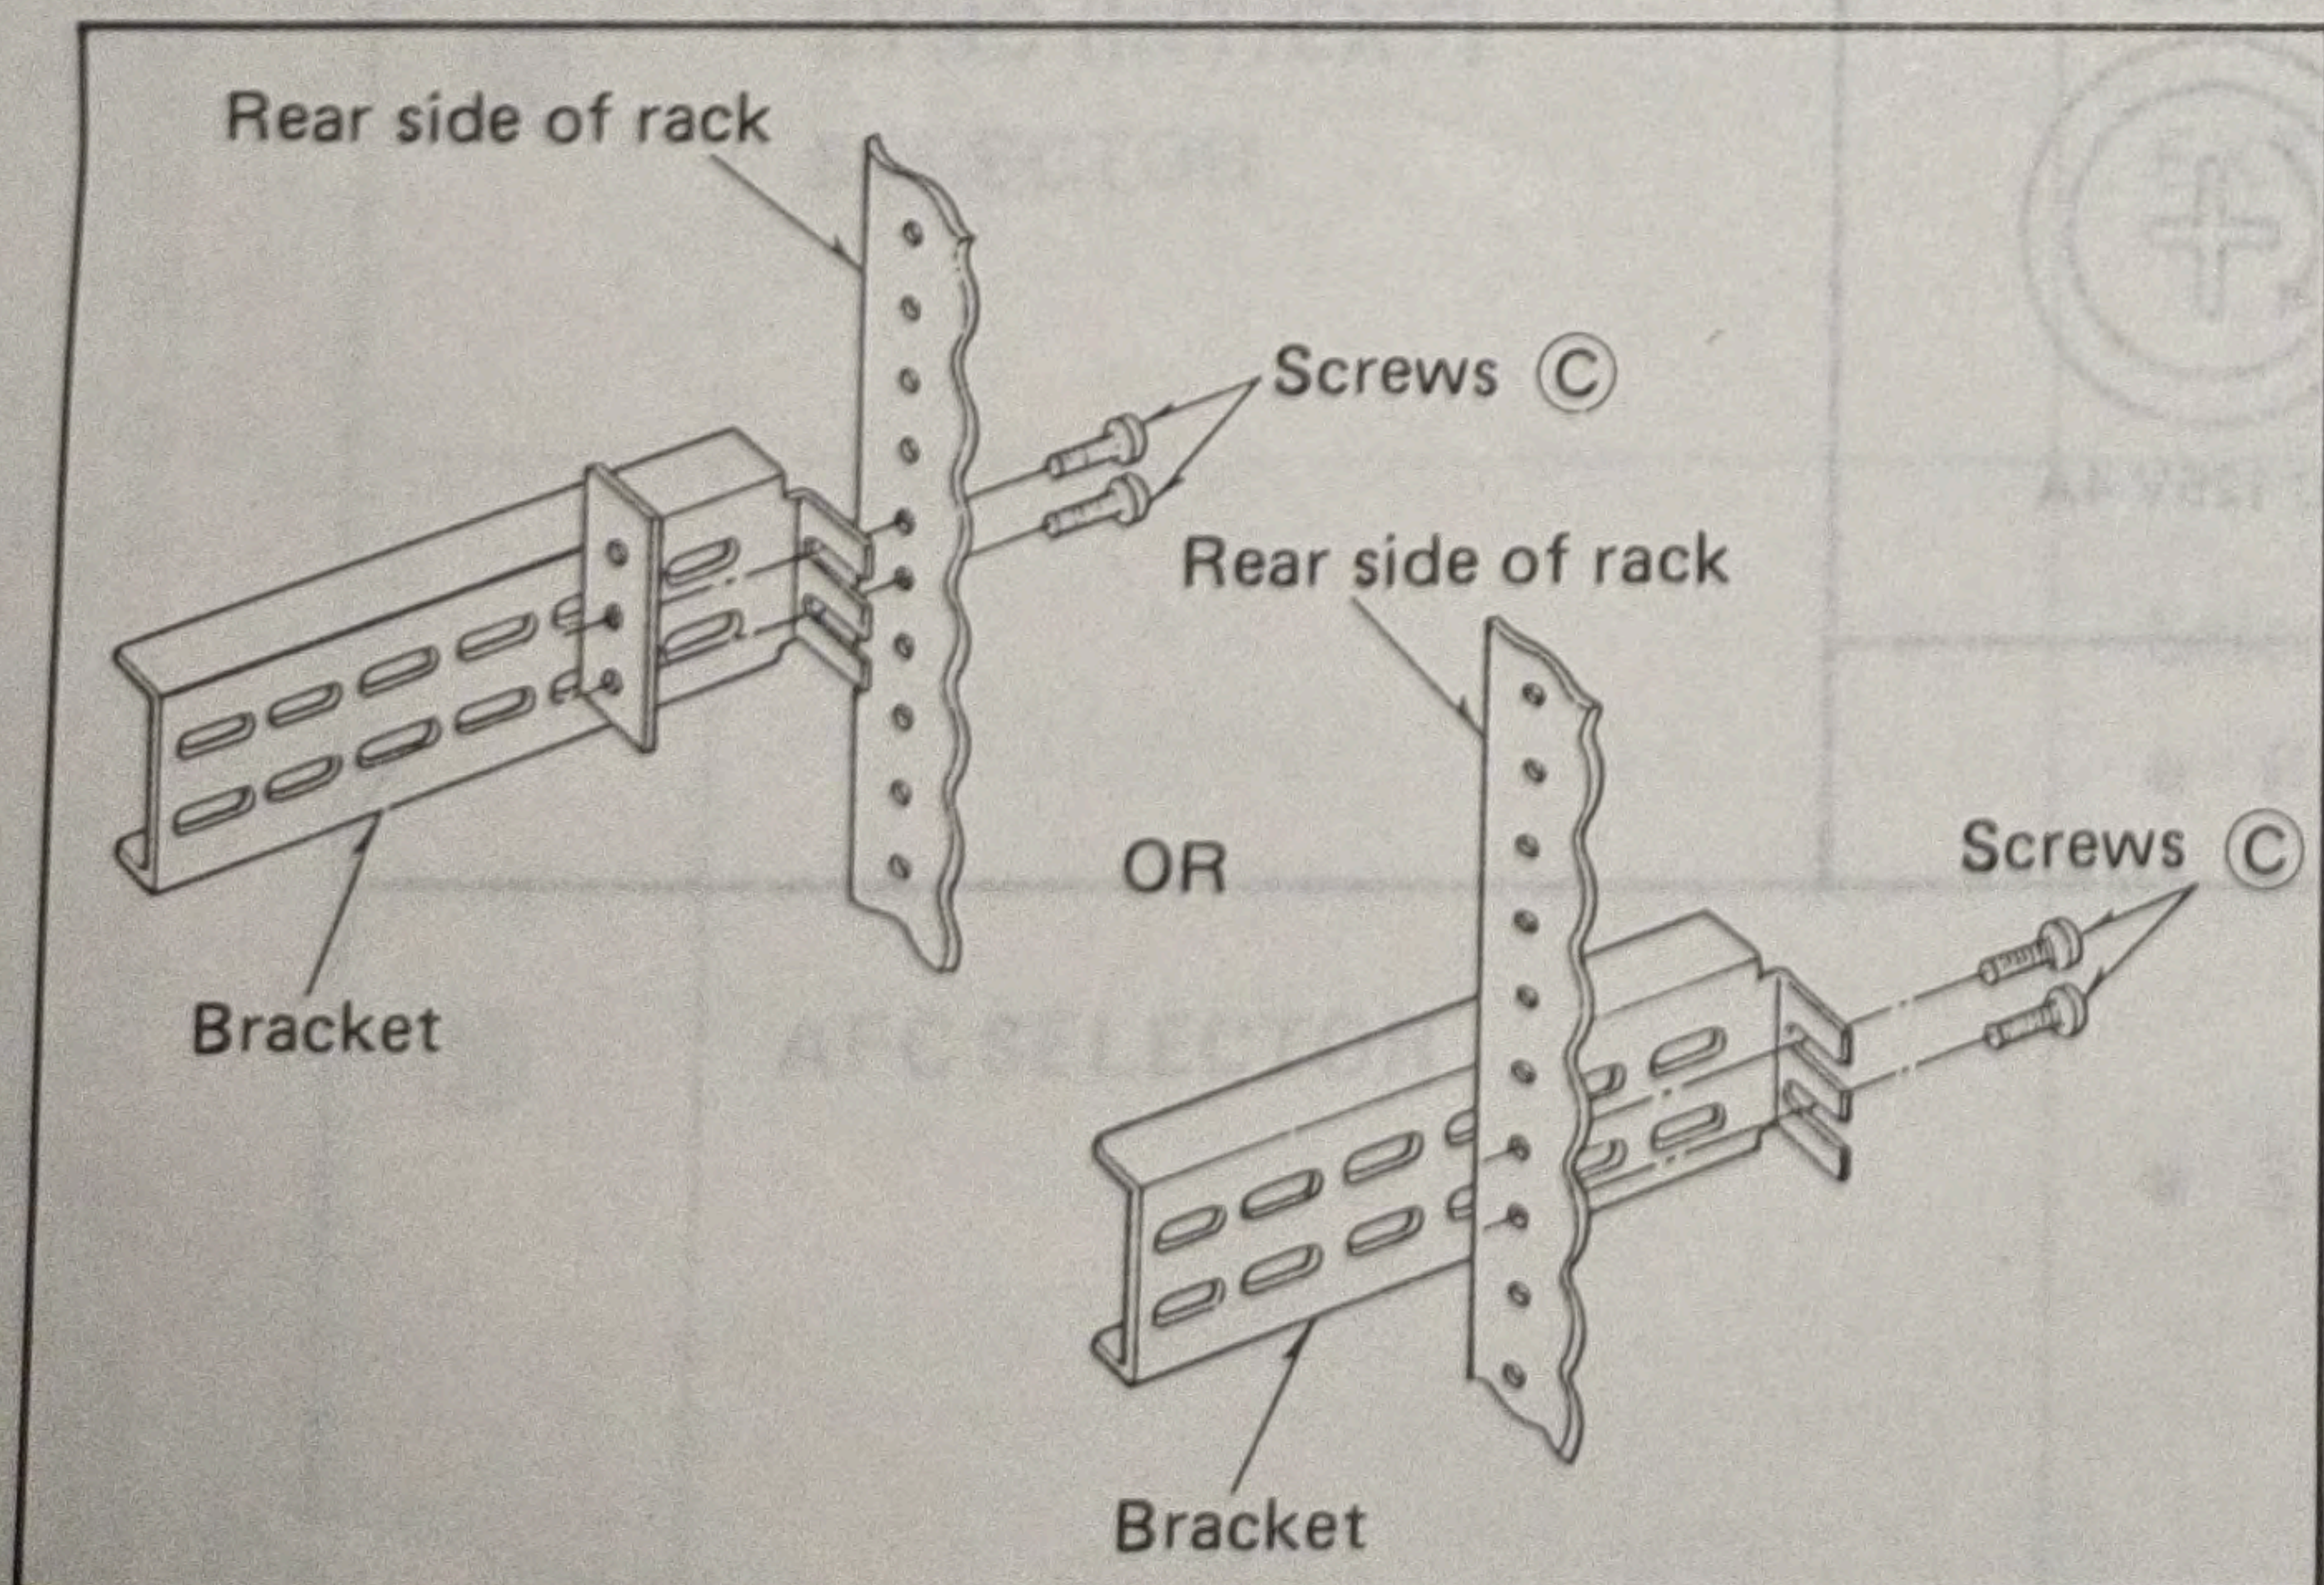

Fig. 3
3. Mount and secure both the right and left bracket on the rack using two screws (C) each (Fig. 3).